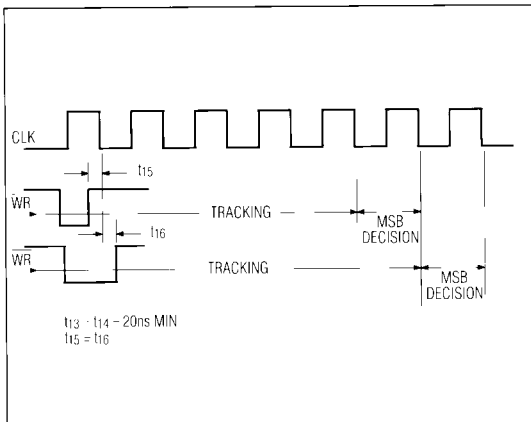

Figure 7. Width of Tracking Interval as a Function of WR Rising Edge Timing with Respect to CLK Falling Edge
**Note 9:** See Figure 7.
A new conversion is initiated by bringing WR low, with CS low. This starts a track acquisition sequence. In this state, the T/H goes into track mode. Capacitor CAZ charges to the analog input voltage minus the input offset voltage of the comparator. Note: when WR is low (with CS low), the MAX182 is in track mode. When WR goes high, tracking time is extended by another 4 to 5 clock periods (4 clock periods beginning with the first falling clock edge following the rising edge of WR). 16 to 17 clock periods are required for each conversion (Figure 7).